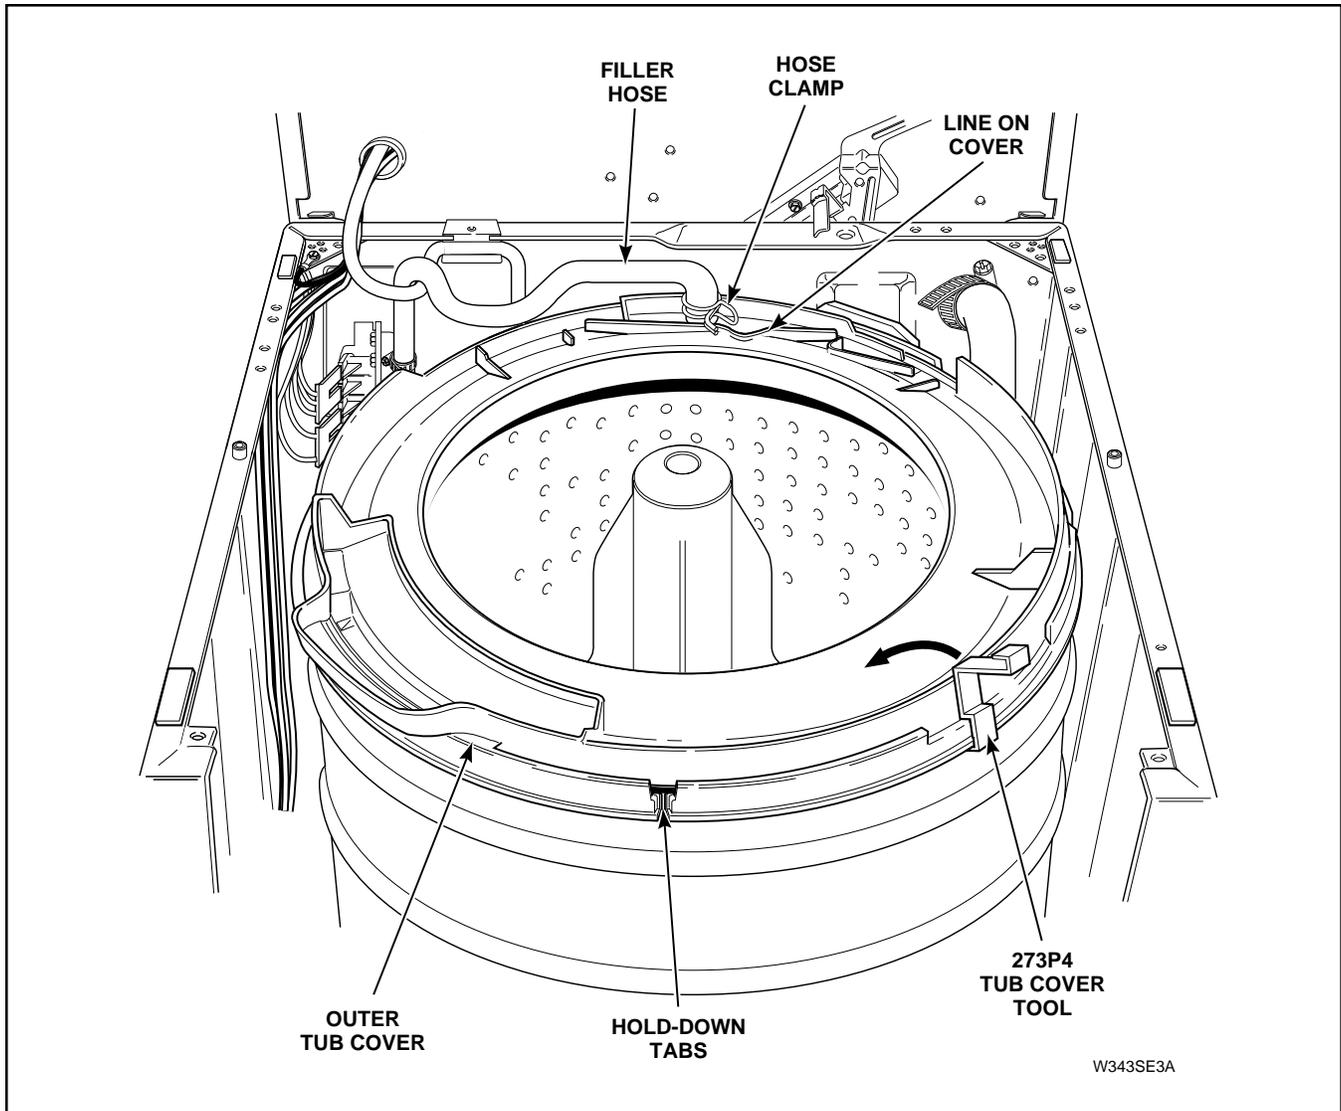

Figure 34
- Loosen hose clamp and remove filler hose from outer tub cover, *Figure 34*.
**NOTE:** When installing filler hose, white line on hose must be aligned with line located on top side of outer tub cover, *Figure 34*.
- There are eight tub cover hold-down tabs which snap over the outer tub flange. Using special tub cover tool, Part No. 273P4, insert two prongs of tool underneath each side of tandem tabs, *Figure 34*. Tilt tool toward center of tub cover and at the same time lift upward on cover to unsnap hold-down tabs from outer tub flange. One by one, disengage each of the eight hold-down tabs from outer tub flange and remove cover.